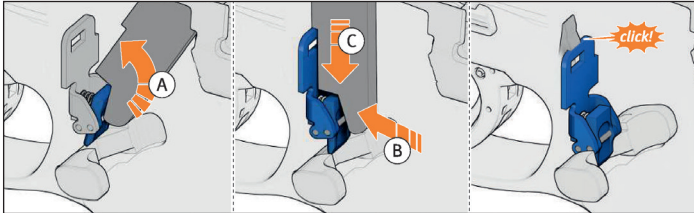

Figure 47 – Push button magazine release components properly reassembled.
3. When the magazine catch is pushed downwards and engages the latching clip, there may be an audible click (Figure 47). Check to ensure the components are properly positioned.